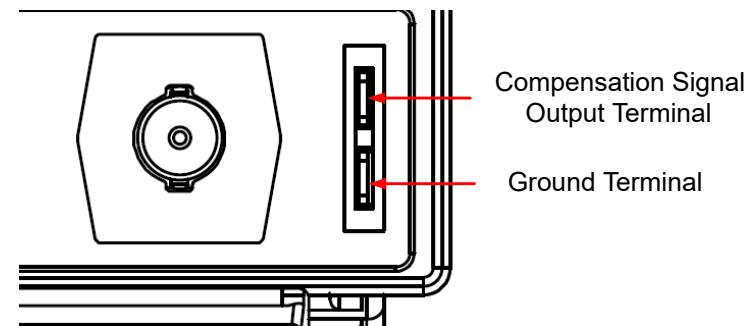

Figure 4.7 Using the Compensation Signal
- Connect the ground alligator clip of the probe to the "Ground Terminal" as shown in *Figure 4.7*.
3. Use the probe to connect the input terminal of CH1 and the "Compensation Signal Output Terminal" of the probe, as shown in Figure 4.7.